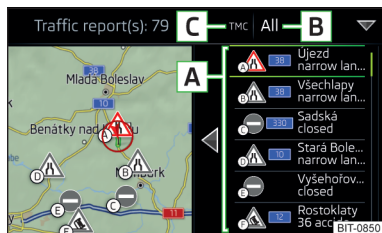

Fig. 203
In the list of traffic messages and the map, a max. of 6 messages are displayed, that are provided with a letter and a traffic obstruction symbol (e.g. , , ) **A** » Fig. 203.
At position **C** » Fig. 203, the following symbols can be displayed.
- › **Route guidance is taking place** - After tapping function surface **B** » Fig. 203 in the displayed menu, you can select all traffic messages by tapping the function surface **All areas**, **or** you can select only the traffic messages present on the route by tapping the function surface **Route**.